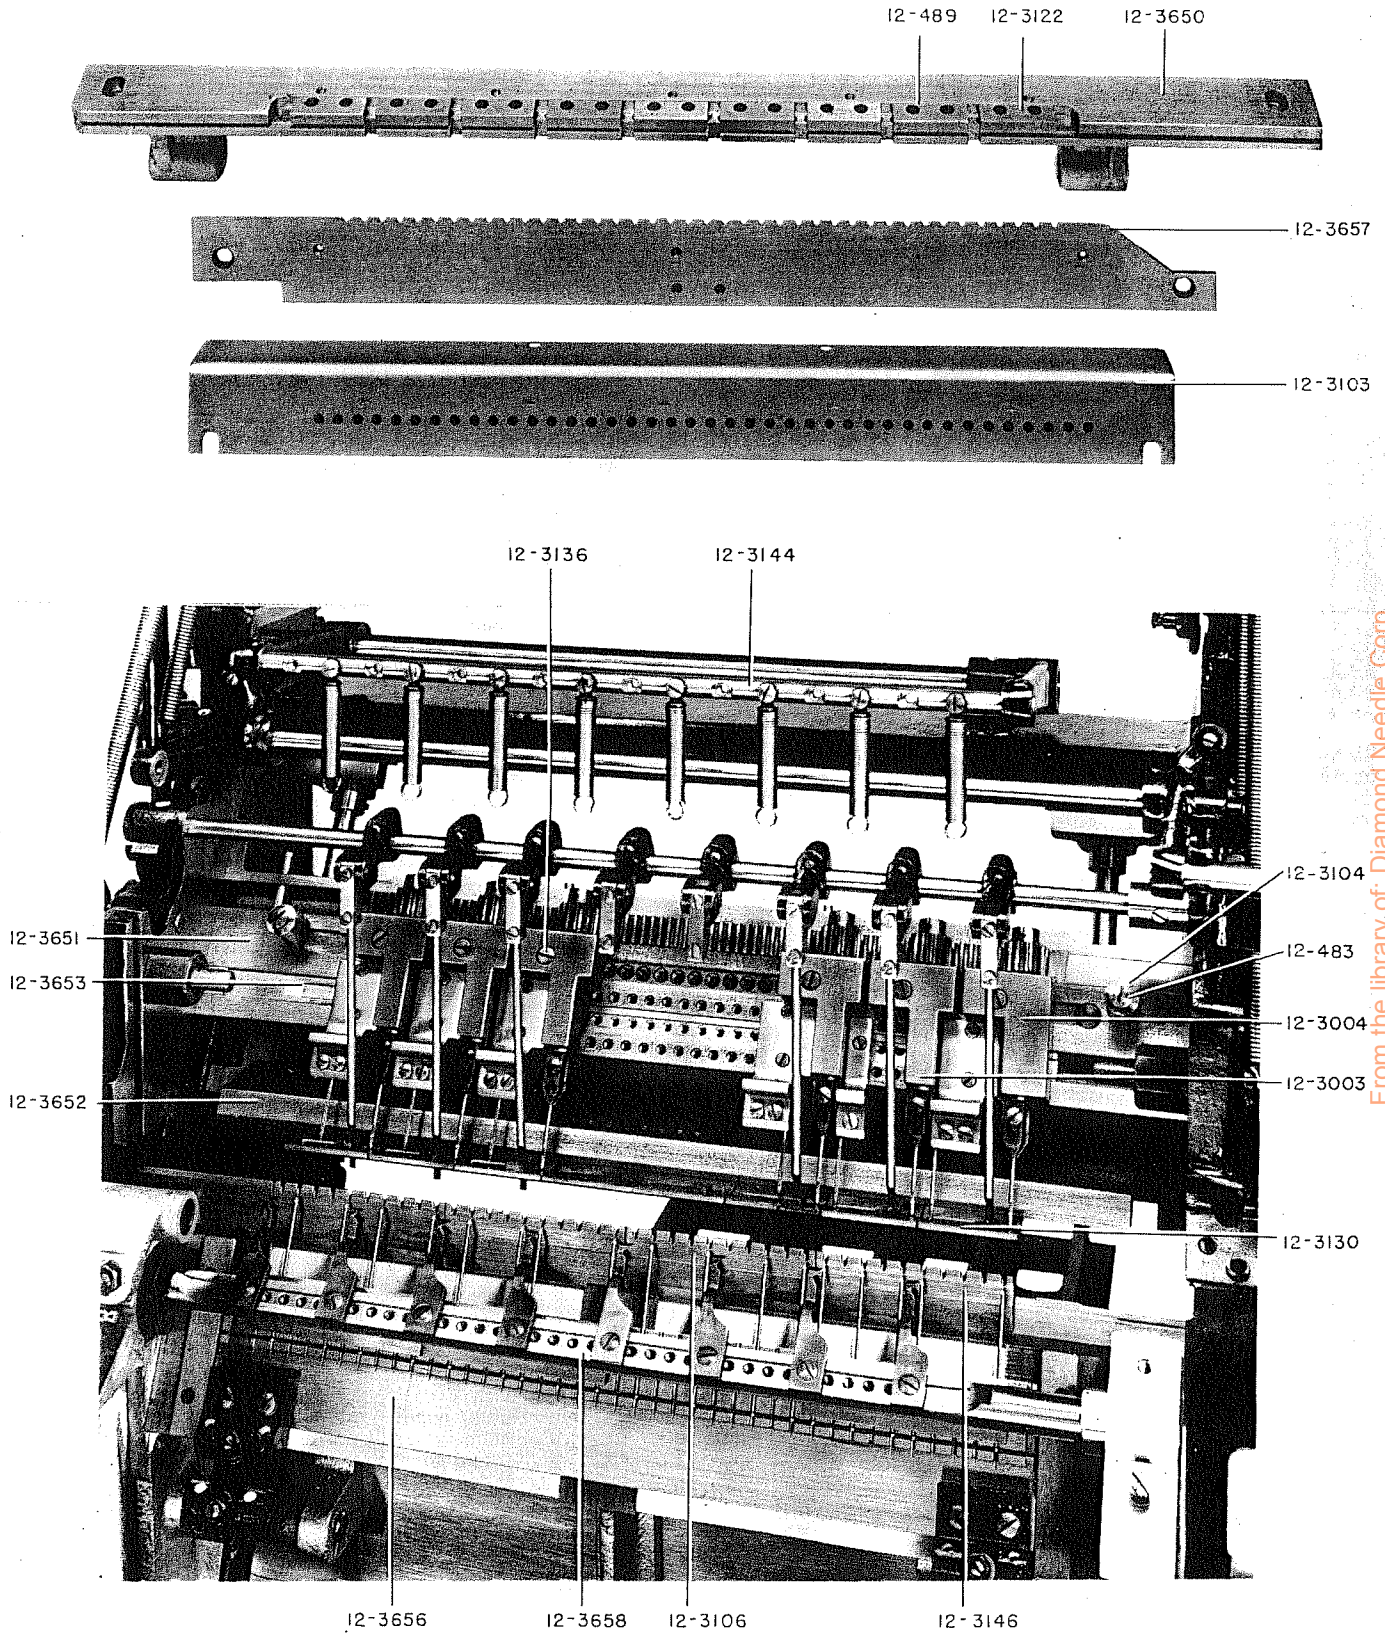

Figure 39—Front View No 12C Model
Figure 39 identifies all of the parts which are used only on the 12C model. If a 12C model is equipped with an Automatic Cut-off Attachment the following parts are substituted for part 12-3130 Presser Plate:
**PARTS LIST FOR FIGURE 39**